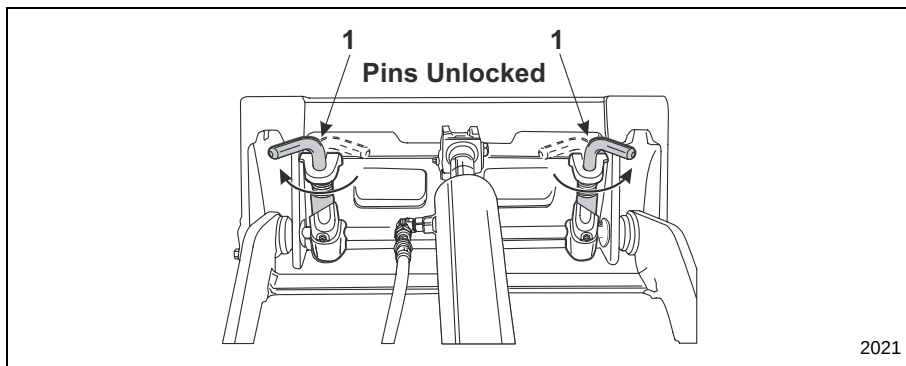
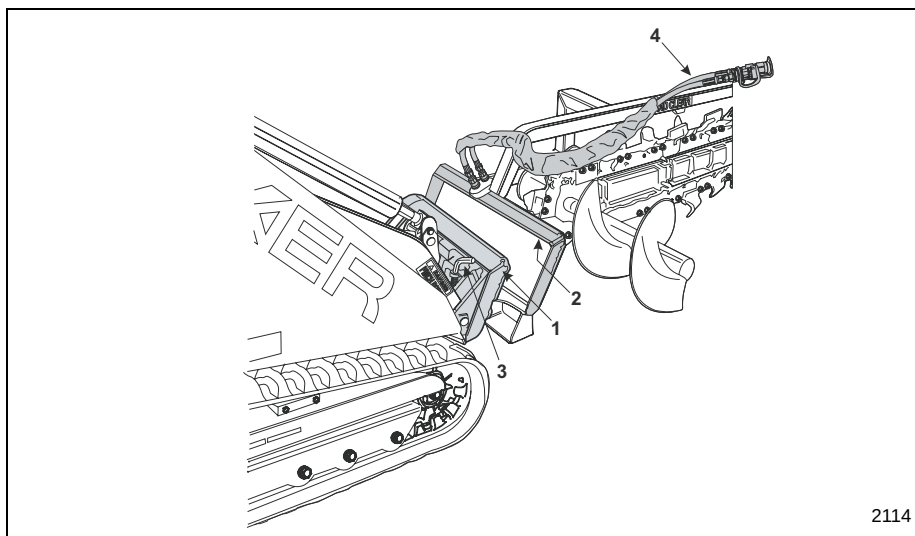

Figure 2 Attachment Locks in Unlocked Position
Figure 3 Hydraulically Powered Attachment Installation
To release an attachment, rotate the attachment locks to the “unlocked” position (Item 1, **Figure 2**). The lock pins will automatically rise, releasing the attachment from the machine. If the pins do not release the attachment or are very hard to rotate, start the engine and tilt the attachment slightly forwards or backwards until the pins can be rotated.
NOTICE: Make sure that both of the attachment lock pins (Item 1, **Figure 2** and Item 3, **Figure 3**) are in the “unlocked” position.
3. Slowly drive towards the attachment and align the top edge of the male mounting plate (Item 1, **Figure 3**) and the upper lip of the female attachment mounting plate (Item 2, **Figure 3**).
NOTICE: Make sure to position the attachments hydraulic hoses (Item 4, **Figure 3**) so that they are not damaged during the installation process. Tuck the upper edge of the male mounting plate into the upper lip of the female attachment mounting plate.